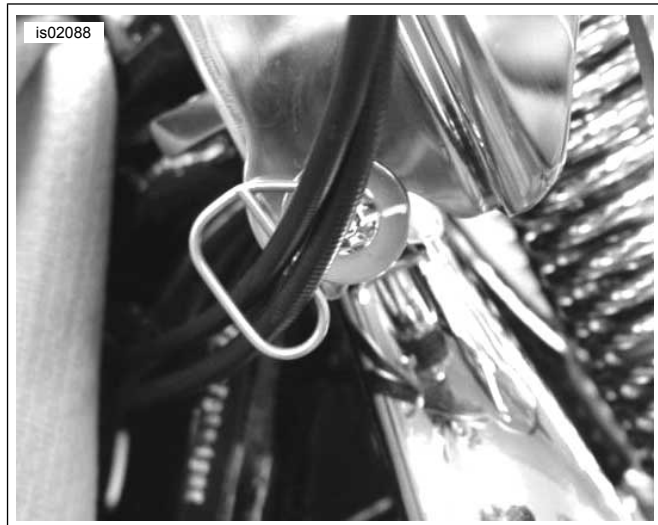

Figure 2. Throttle Cable Guide
- a. **For FXSTS, FXSTSB models with passing lamps:** Use 3/4 inch buttonhead screw (2) for the left side attachment and use 7/8 inch button head screw (3) for the right side attachment.
- b. **For FXSTS, FXSTSB models without passing lamps:** Use 5/8 inch buttonhead screw (4) for the left side attachment and use 3/4 inch button head screw (2) for the right side attachment.
- c. **For FLSTS models (with or without passing lamps):** Use 5/8 inch button head screw (4) for the left side attachment and use 3/4 inch buttonhead screw (2) for the right side attachment.
- d. **For ALL models:** On left side, install correct buttonhead screw (See Step 13a-13c above) through 5/16 inch lockwasher (5), bracket and into left side fork mounting hole. Do not tighten at this time. See Figure 2. On right side, install correct buttonhead screw (See Step 13a-13c) through the throttle cable guide (10), 5/16 inch washer (6) bushing (7), another 5/16 inch washer and into the lower right side cable guide. Tighten bolt so that cable guide pivots as handlebars are turned. Rotate handlebars to the full left turn position, then rotate handlebars to center position. Cable guide should stop in an angled position. See Figure 2. Rotate handlebars to the full right turn position. Check for full throttle function (grip snaps back).